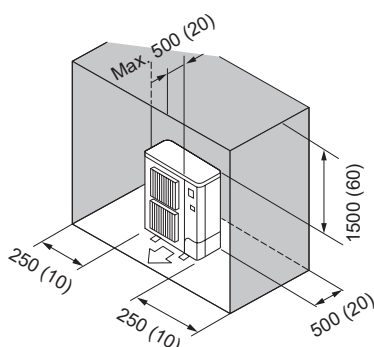

Fig. 2-11
- (6) Obstacles at rear, sides, and above only (Fig. 2-11)